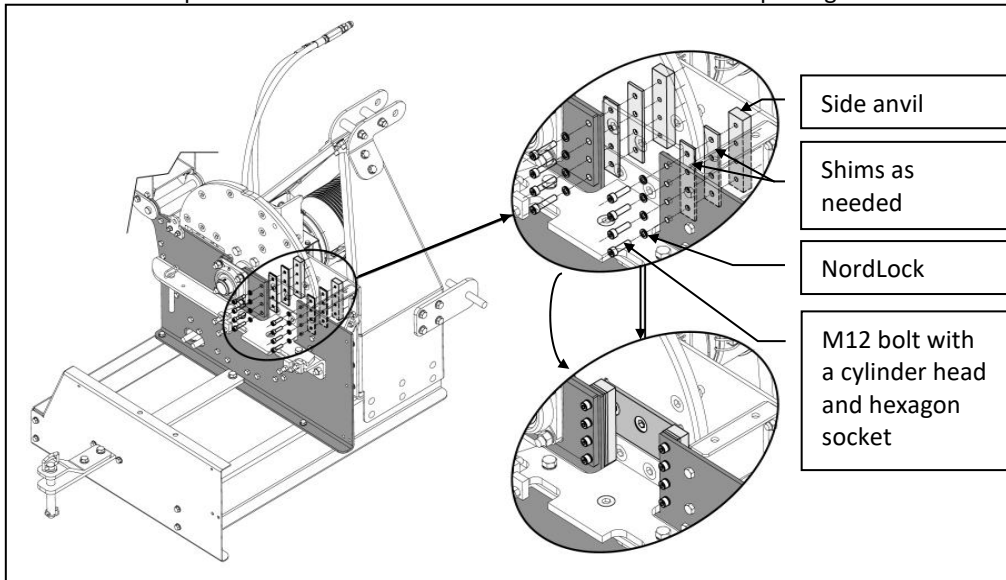

Figure 27
3. The anvil is now accessible (see Figure 27).
6. The new side anvil can now be mounted as shown in Figure 27, with a number of shims to give the desired anvil height, with M12 bolts with the cylinder head, inner hexagon and NordLock washers.